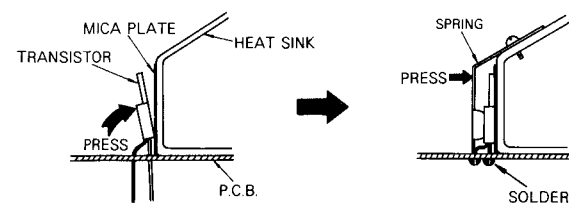

Fig. 6
- (1) Insert the feet of transistor into the holes of P.C.B.
- (2) Contact the mica plate painting silicon pound to the heat sink.
- (3) Contact the power transistor to the heat sink as shown in fig. 6.
- (4) Solder the feet of transistor contacting the heat sink.
- (5) Insert the spring into P.C.B. and install the spring to press against the transistor by screw.
- (6) Contact the temperature compensator transistor to the heat sink as same as the power transistor.